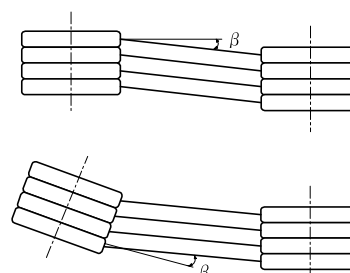

Fig. 11
- The parallel deviation of the two belt pulleys must be less than 20' (Fig. 11).
Note 1: A pressure plate (B) must be fitted for vertical gearboxes to prevent the gearbox moving when the securing screw (ZS) is loosened (Fig. 11).
1. If the shaft to be driven (Fig. 11) doesn't have a shoulder, its seating must be secured with a spacer ring when assembling. (The spacer ring (h) is not included in the gearbox delivery schedule).